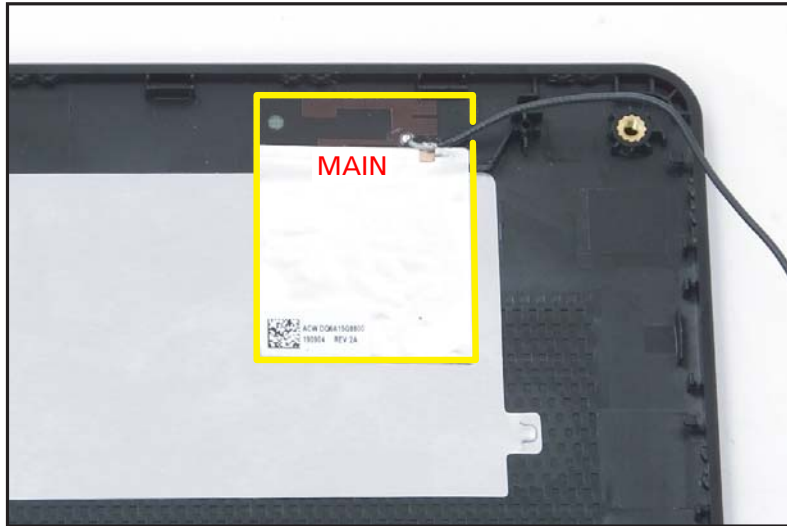

Figure 1-64. WLAN Antenna Removal
4. Gently peel off the MAIN antenna and its grounding foil (Figure 1-64).
5. Remove the MAIN antenna from the LCD cover (Figure 1-64).